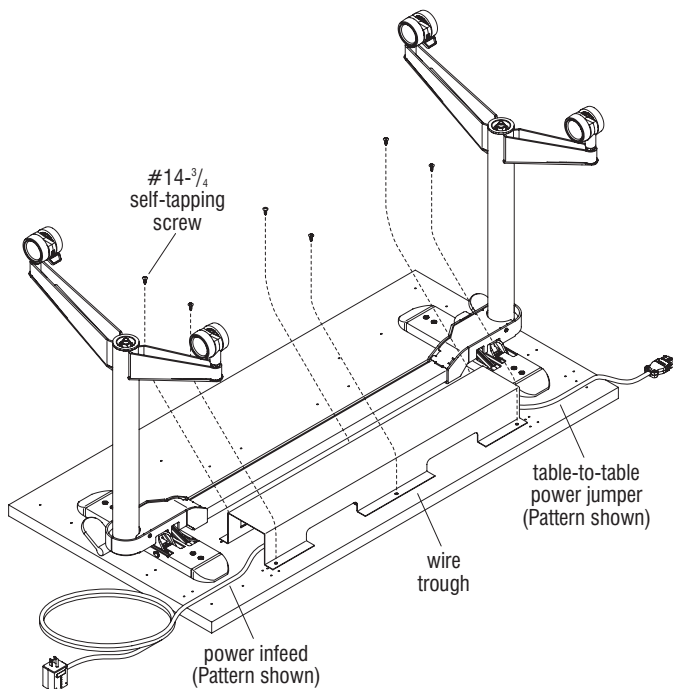

Figure 2
1. Holding contents inside the wire trough, carefully turn it over 180-degrees, (upside-down) onto the tabletop, and over the power module(s). Adjust the power infeed, the connectors and cables in the trough so the trough lays flat. Align the wire trough mounting holes with the pre-drilled holes in the underside of the tabletop, and secure wire trough to tabletop using six #14 x 3/4" self-tapping screws. Do not over-tighten (Figure 2).